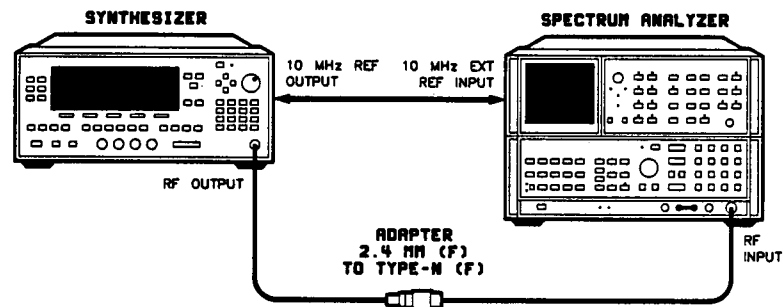

Figure 2-11. Spurious Signals (Non-Harmonic) Test Setup
1. Preset the instruments shown in figure 2-11 and let them warm up for at least one hour.
3. Connect the equipment as shown in figure 2-11.